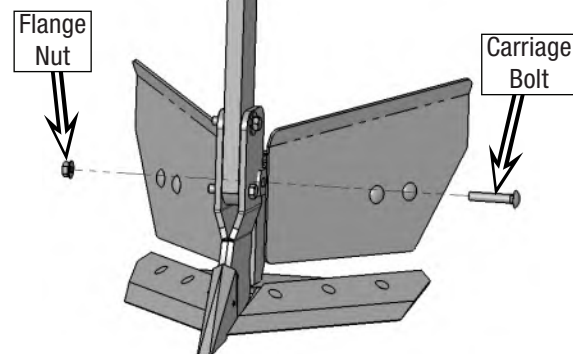

FIG. 4-42
4. Remove the carriage bolts and flange nuts then remove the wings from the ridging wing assembly. (Fig. 4-42)